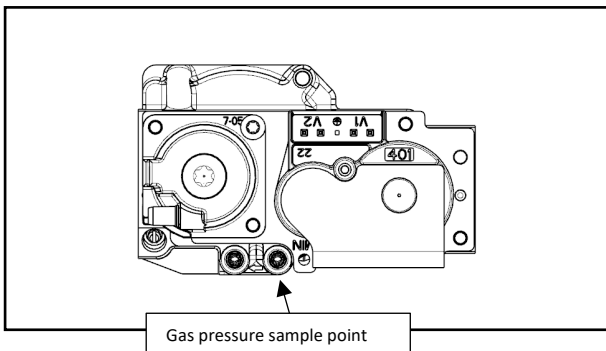

Fig. 5
- Check the incoming gas pressure at the unit (fig.5) is in accordance with table 2 with all gas appliances in operation and standby.